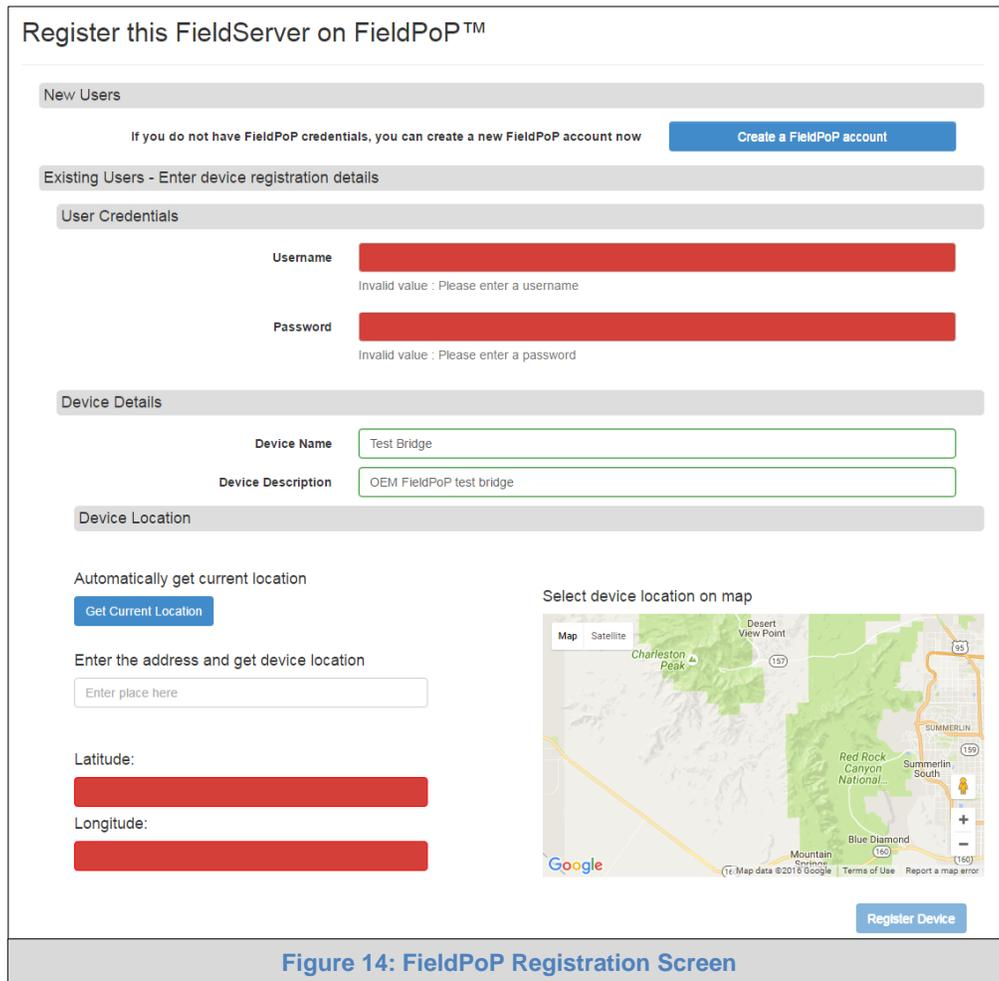

Figure 14: FieldPoP Registration Screen
- To create new SMC Cloud user credentials, follow the instructions in **Section 2.3** until the SMC Cloud registration page is reached (**Figure 14**) and then continue with the instructions below.